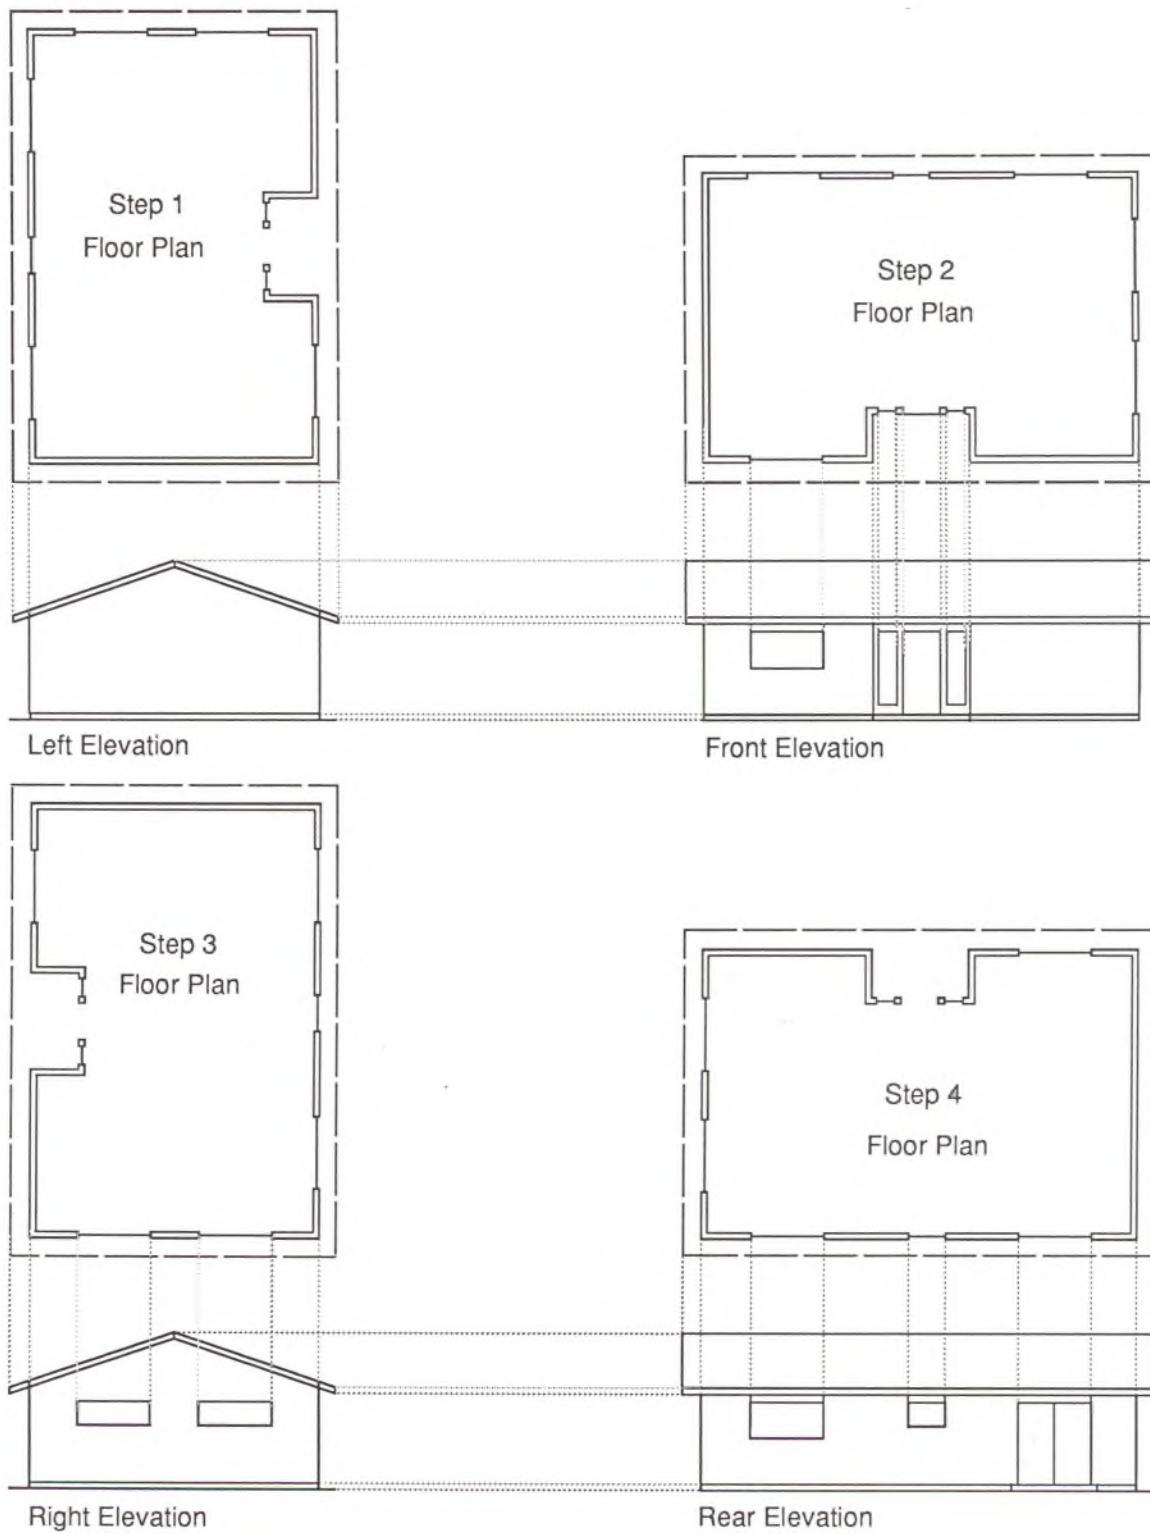

Fig. 24.13 Construct each of the other elevation views.
2. Draw the elevation view, using the vertical measurements already established on your first elevation view. (See steps 1 and 2 in Fig. 24.13.)
3. Continue to turn the floor plan around and draw an elevation view for each of the other two sides of the house as in steps 3 and 4 in Fig. 24.13.